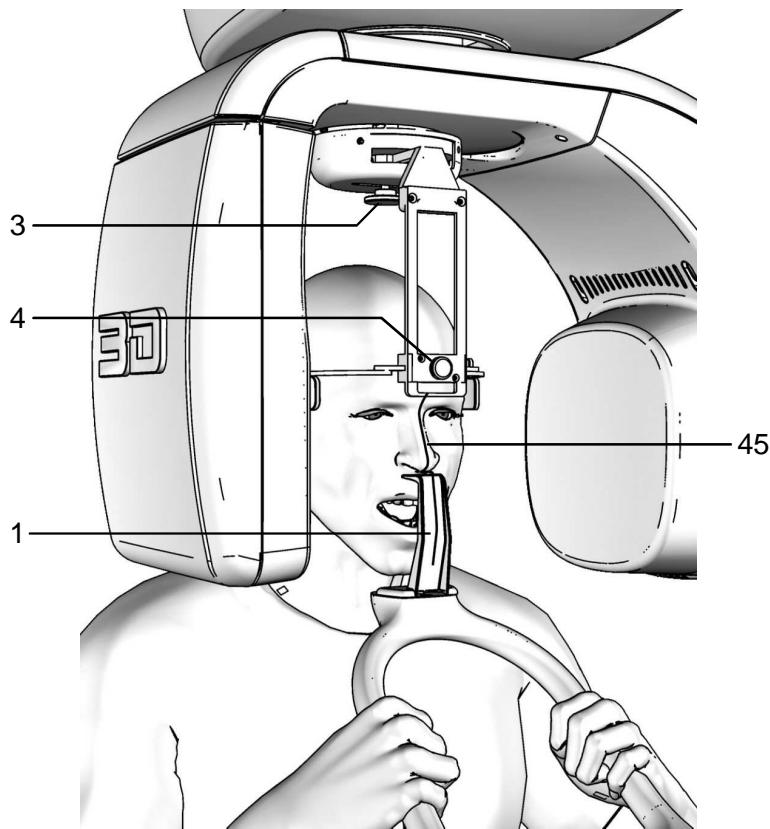

Figure 17 – Open mouth examination positioning
3. Position the patient again if he has been removed from the centring device (Figure 17). Tell him to open his mouth (helping him to keep in position using appropriate mechanical devices - not supplied - if necessary).
7. Place the temple clamp in contact with the patient's head by means of the appropriate knob (Figure 17).
8. Press the key "Patient Entrance" (7)